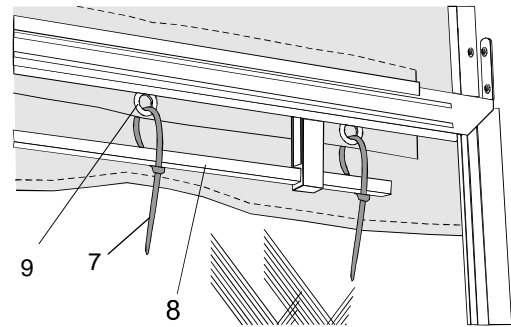

Fig. 19
1. When roof fabric is tightly pulled over the top front extrusions, fasten in place using the roof tie down straps provided (see Fig. 19).